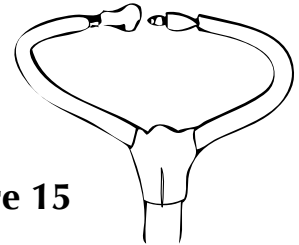

Figure 15
3. Disconnect the Fluid Hoses from the Wrap and connect the male/female Connector Ends of Fluid Hose to each other to prevent leakage (Figure 15).